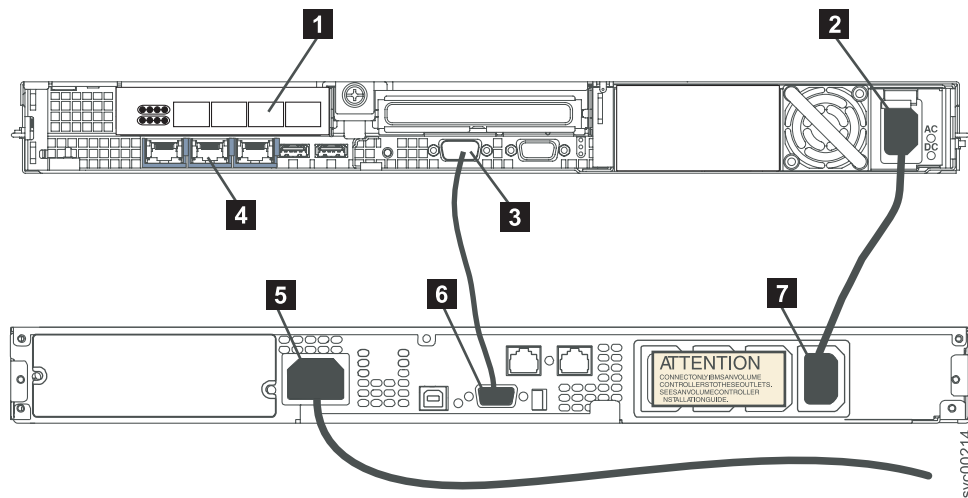

Figure 44. Connecting the SAN Volume Controller 2145-8G4 power cable to the 2145 UPS-1U
1. At the back of the SAN Volume Controller 2145-8F2, SAN Volume Controller 2145-8F4, or SAN Volume Controller 2145-8G4, plug the combined power and serial cable into the power connector **2**. See Figure 44.